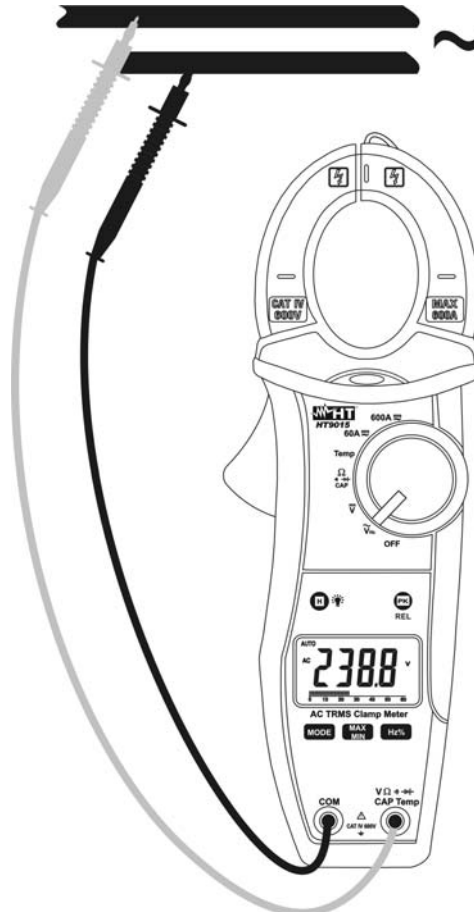

Fig. 3: Taking AC voltage measurements
3. Insert the red test lead plug into $V\Omega\sim\rightarrow CAPHz\%Temp$ jack and the black test lead plug into **COM** jack (Fig. 3)